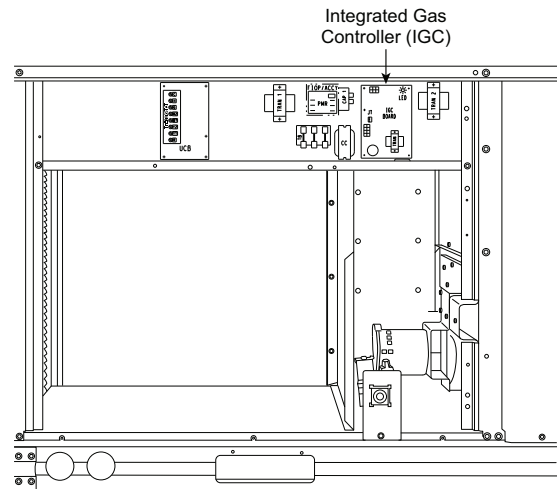

Fig. 60 — Unit Control Box/IGC Location
8. Remove igniter wires and sensor wires at the Integrated Gas Unit Controller (IGC). (See Fig. 60.)
Unit is equipped with a direct spark ignition 100% lockout system. The Integrated Gas Unit Controller (IGC) is located in the control box (see Fig. 60). The IGC contains a self-diagnostic